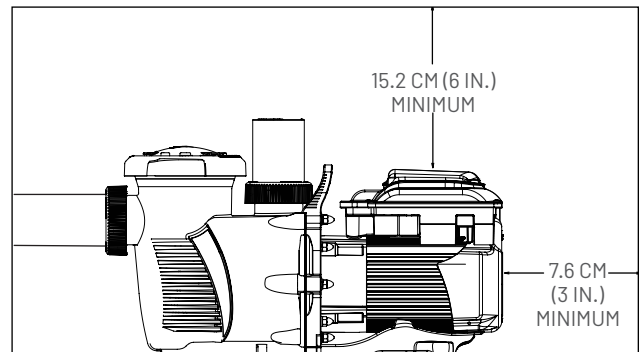

Figure 1: Pump Rear and Vertical Clearance
6. Install the pump with a rear clearance of at least 7.6 cm (3 inches) so that the motor can be removed easily for maintenance and repair. See Figure 1.